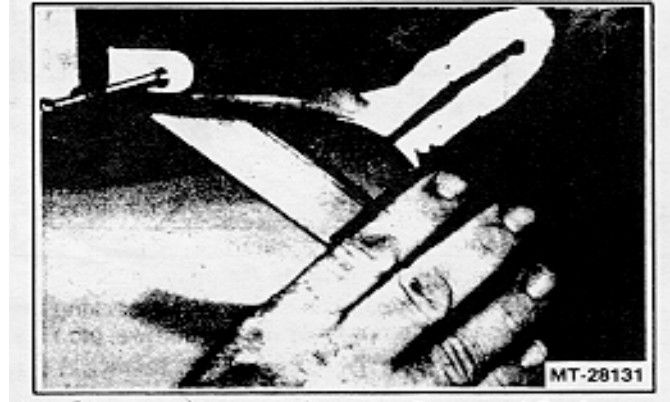

Figure 33 Sanding Exterior Damaged Surface (Crack Shown Typical)
12. Remove flaky edges and feather the painted surface back about 1/2 inch beyond the damaged area by hand-sanding or power-sanding with 360 grit sandpaper (Figure 33).